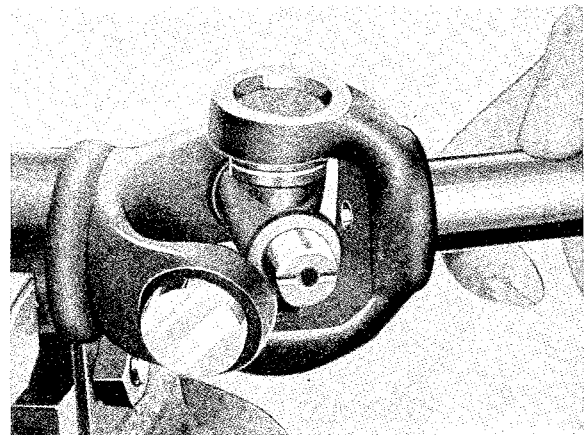

Fig. 4-126. Removal of spider, II
5. Drive out one of the needle bearings with a thin metal punch. Remove the spider, see Fig. 4-126. Drive out the other needle bearing.